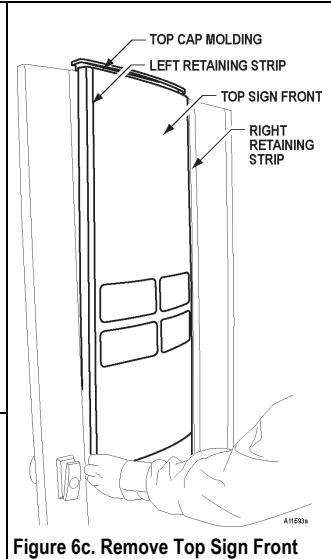

Figure 6c. Remove Top Sign Front
3. Lift Top Cap Molding and loosen Retaining Strip on the left side of the Top Sign Front (on the front of cabinet door). Remove the Retaining Strip and Top Sign Front assembly. See **Figure 6c**. (*This is most easily done by applying outward pressure on the wing nut screws on the inside of the door.*)
7. Insert the right edge of the Top Sign Front into the slot of the right side Retaining Strip. See **Figure 6c**.
8. Slip the left side Retaining Strip over the left edge of the Top Sign Front. Push the Retaining Strip back into place. See **Figure 6c**. (*To accommodate the rounded front design, carefully bow the left edge of the assembly to the right until you are able to press the three retaining screws back into position.*)